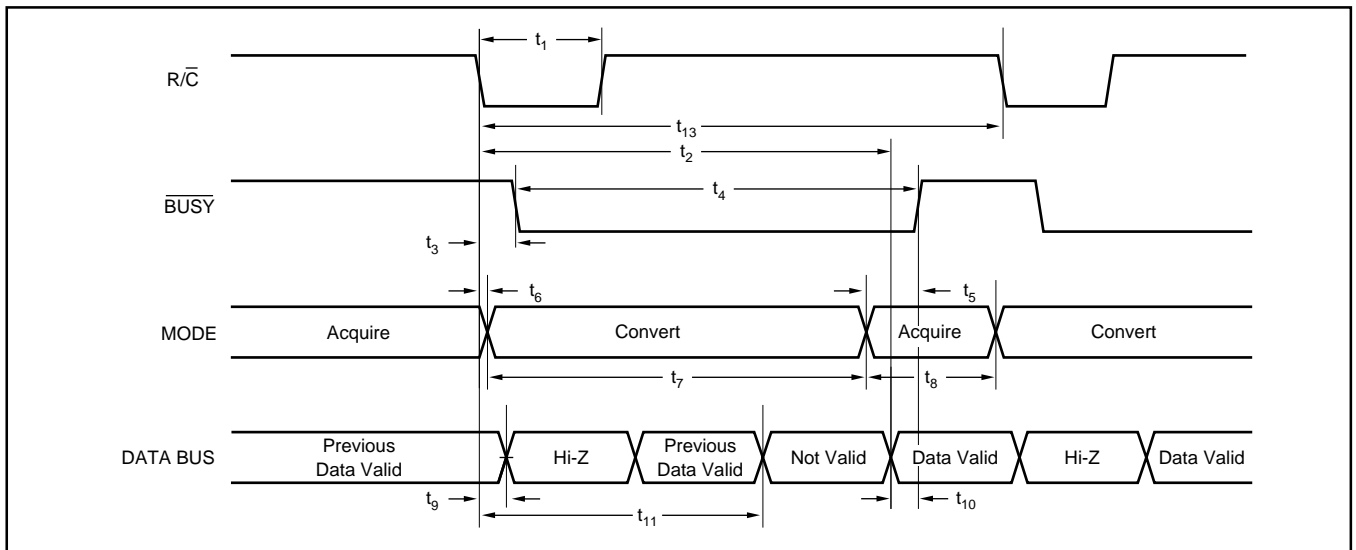

FIGURE 3. Conversion Timing with Outputs Enabled after Conversion (\overline{CS} Tied LOW).
Table II for a summary of $\overline{\text{CS}}$, $\overline{R/\overline{C}}$, and $\overline{\text{BUSY}}$ states and Figures 3 through 5 for timing diagrams.
NOTE: (1) See Figures 3 and 4 for constraints on data valid from conversion "n-1".
After conversion 'n' is completed and the output registers have been updated, \overline{BUSY} (pin 26) will go HIGH. Valid data from conversion 'n' will be available on D15-D0 (pins 6-13 and 15-22). \overline{BUSY} going HIGH can be used to latch the data. Refer to Table IV and Figures 3 to 5 for timing specifications.
After conversion 'n' has been initiated, valid data from conversion 'n-1' can be read and will be valid up to $7\mu s$ after the start of conversion 'n'. Do not attempt to read data from $7\mu s$ after the start of conversion 'n' until \overline{BUSY} (pin 26) goes HIGH; this may result in reading invalid data. Refer to Table IV and Figures 3 to 5 for timing specifications.
The number of control lines can be reduced by tying \overline{CS} LOW while using R/\overline{C} to initiate conversions and activate the output mode of the converter. See Figure 3.